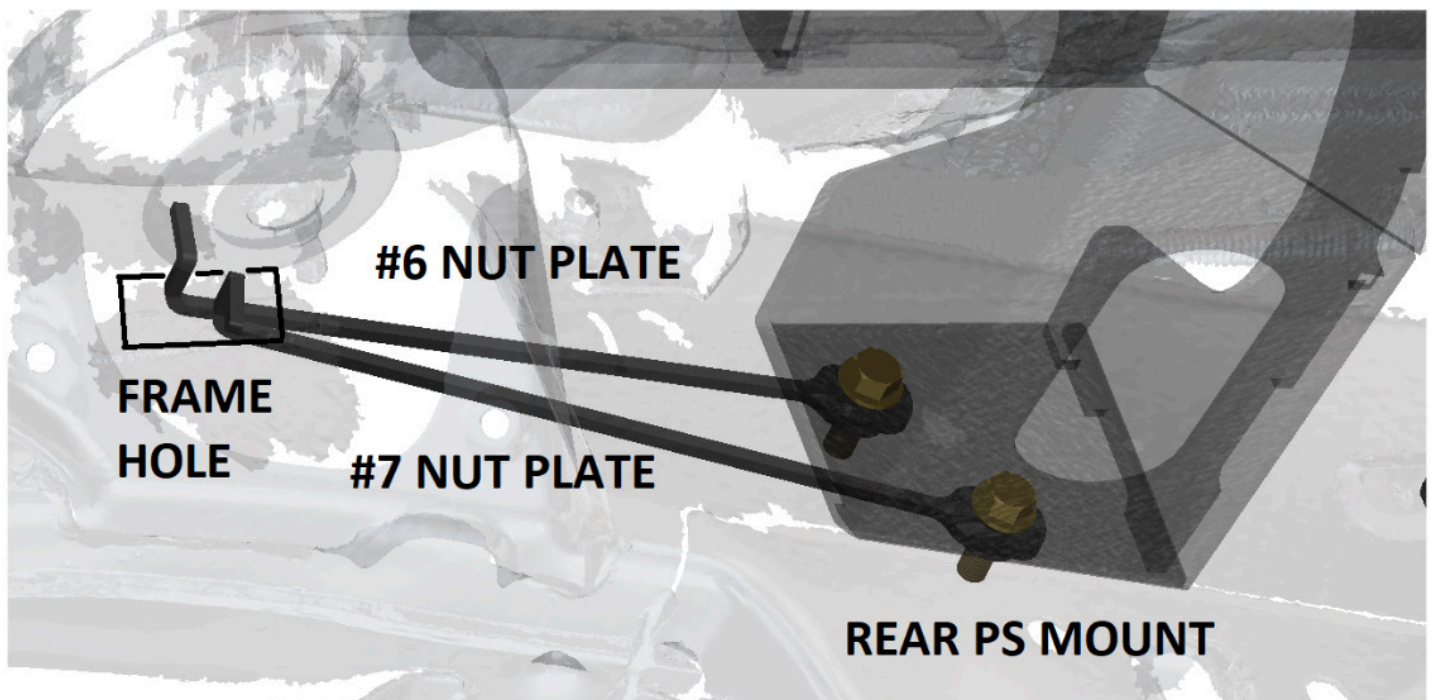

Figure 8
- c. For the passenger side REAR mount use the #6 etched nut plate for the top mounting bolt and the #7 nut plate for the bottom mounting bolt. Figure 8.